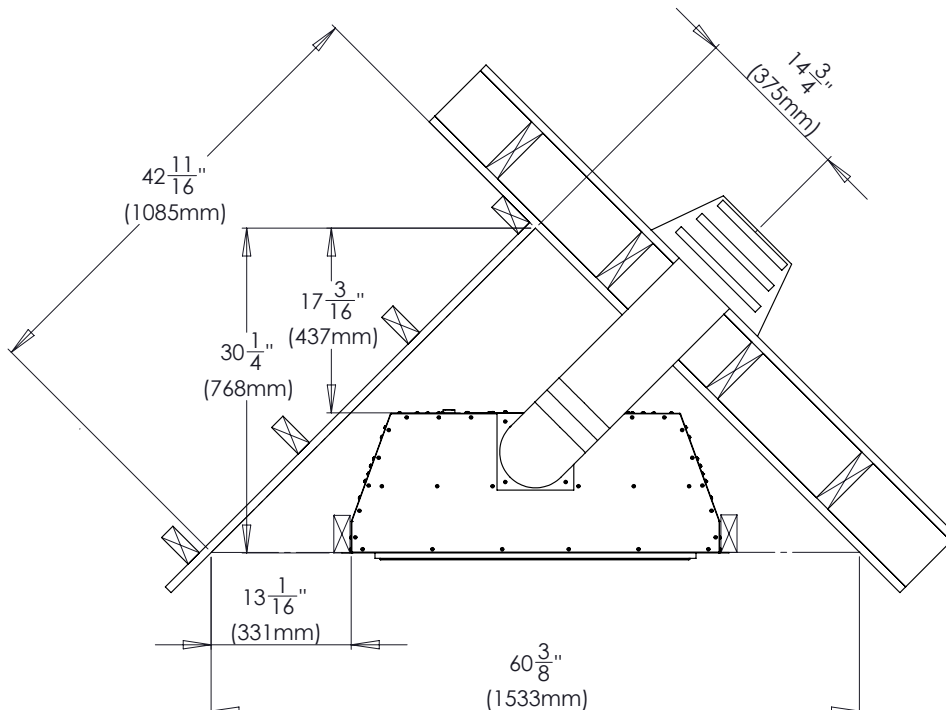

Figure 18. Dimensions for a corner installation, top vented
Step 2: Switch the removed parts around as shown in Figure 18 and re-install all 12 screws.